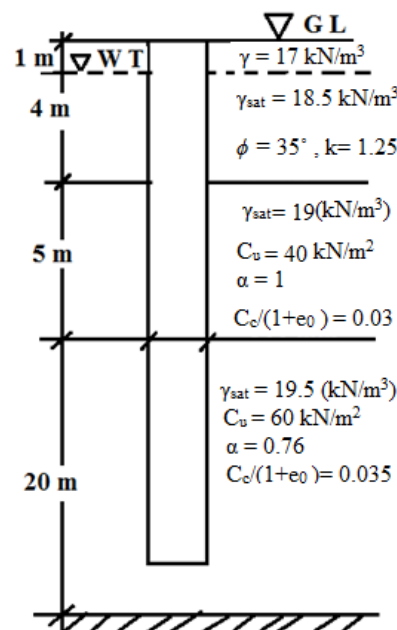

Fig.1
2. A group of 6 bored cast in-situ piles (diameter = 50 cm, length = 18 m, center to center distance = 1.5 m and cut off level 1.2 m) arranged in a square pattern pass through a sand layer overlaying a soft deposits which is consolidating under the fill load and rests in stiff clay strata. The soil properties of the different strata are given in Fig 1.